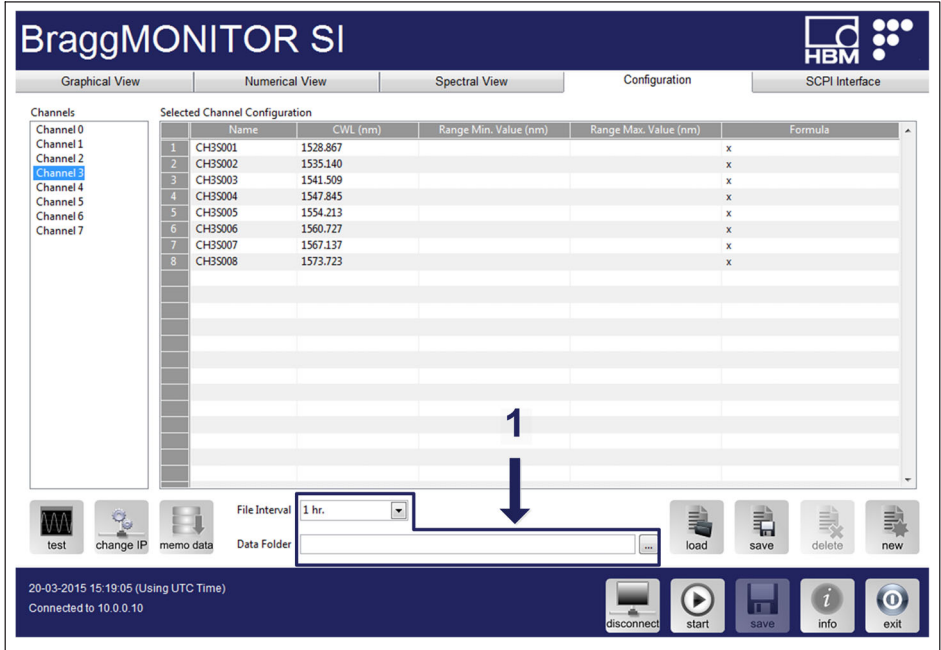

Fig. 5.5 Defining data storage settings in BraggMONITOR SI
- Data storage settings (number 1 in Fig. 5.5):